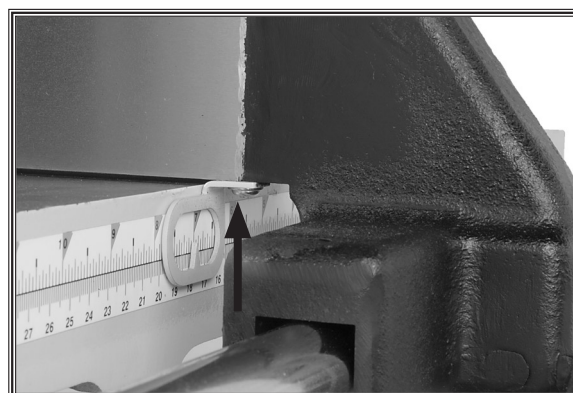

Figure 41. Fence pointer adjustment screw.
3. Loosen the pointer adjustment screw (**Figure 41**), and set the pointer in line with "0" and the measurement scale on the table.